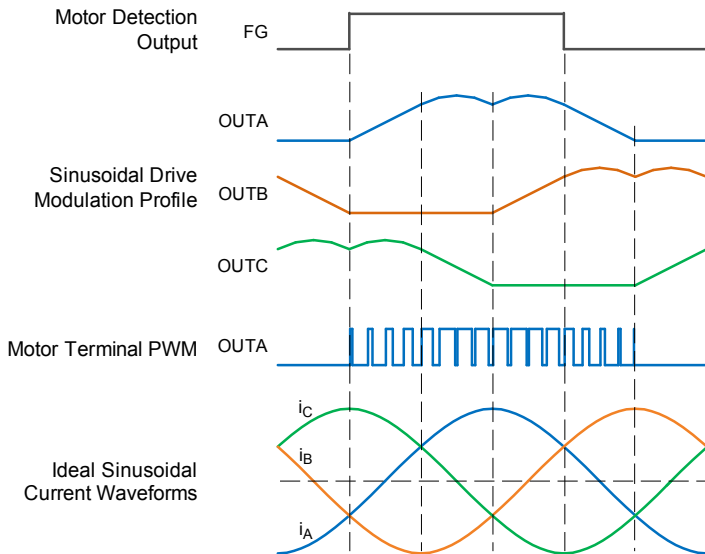

Figure 1: Sinusoidal PWM Output Generation
cycle for the A4949, is measured and converted to a 9-bit number. This 9-bit speed demand value is applied to an internal PWM generator function to create the modulation profile. The modulation profile is applied to the three motor outputs, with a 120-degree phase relationship, to create the sinusoidal current waveform as shown in Figure 1.
**FG** Open drain output provides speed information to the system. FG changes state one period per electrical revolution of the motor (as shown in Figure 1).